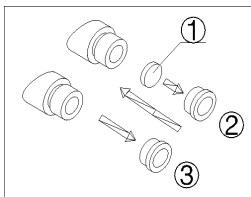

Fig.5
- 1) Turn and remove the mounting ring (2) from the eyepiece. (Fig.5)
- 2) Clean the eyepiece micrometer (1) and mount it to the mounting ring with the inscription side downward.
- 3) Gently twist the mounting ring with the eyepiece micrometer into the eyepiece till tightening (2) securely.
- 4) To remove the eyepiece micrometer, take down the mounting ring (3) by twisting and take out of the micrometer, and then wrap it.